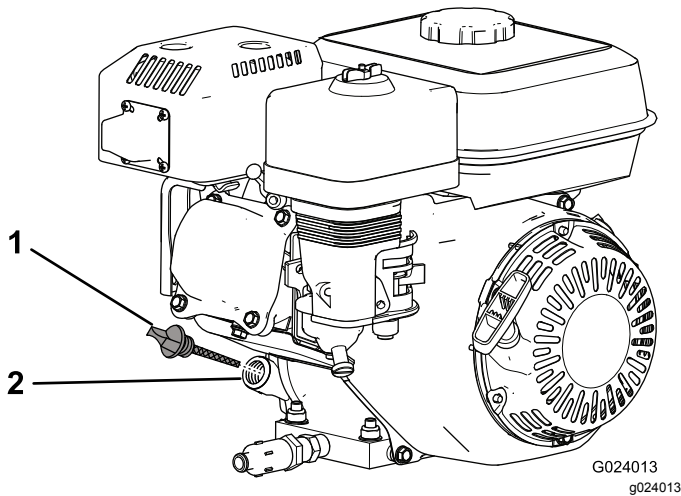

Figure 18
2. Shut off the engine, wait for it to cool, and clean the area around the oil-filler cap/dipstick (Figure 18).